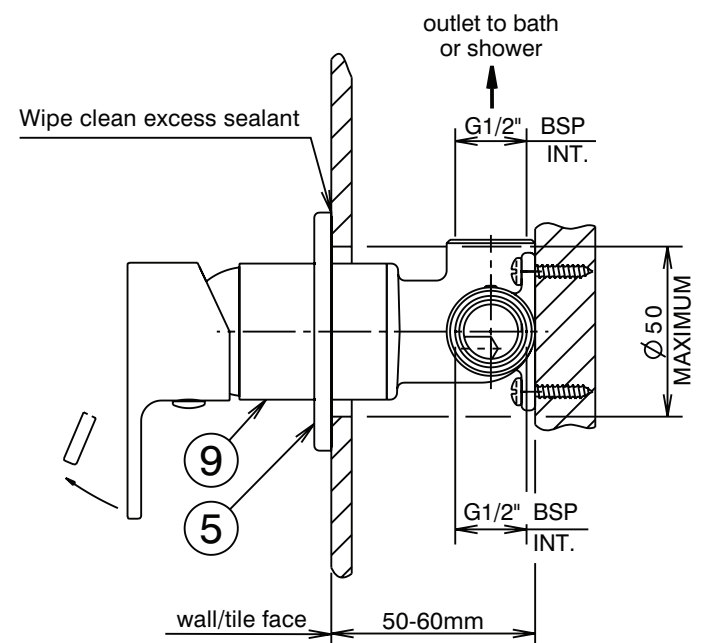

Fig. 1
Installation (Fig. 1 & 2)
- * Mixer body (9) must be installed square to wall/tile face, to ensure cover plate (5) sits flush.
- 2) **Trim kit:** Apply a suitable clear sealant to the back face of the cover plate (5), leaving an unsealed section at the bottom for drainage. Carefully fit the cover plate (5) onto the mixer body (9). Push the cover plate (5) firmly against the wall/tile face. Wipe clean any excess sealant from the cover plate surfaces and the wall/tile face (See Fig. 1).
- 3) Fit handle (1) taking care that it is pushed fully onto cartridge stem, then tighten grub screw (2) using the 2.5mm allen key (3). Fit plug (4), taking care not to damage the decorative finish.